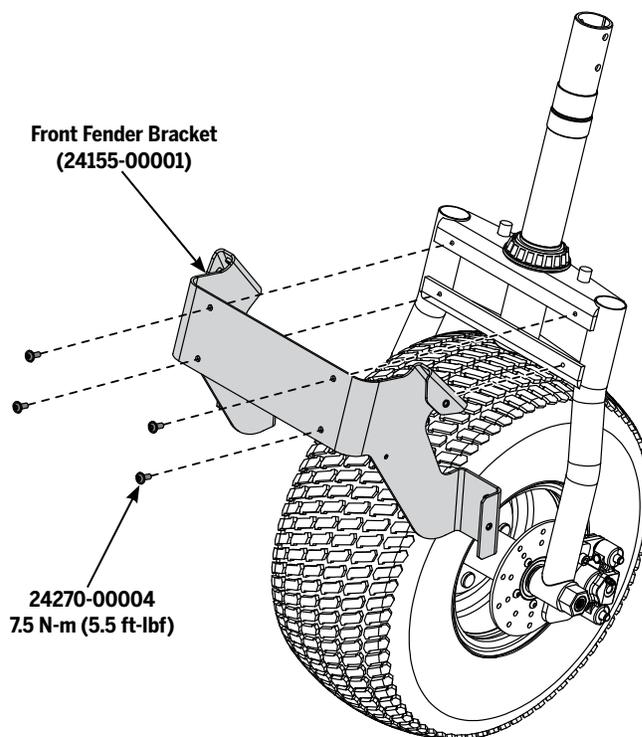

Figure 141: Front Fender Bracket
4. Using a 4 mm hex wrench, remove the four fasteners as shown in **Figure 141**.
3. Using a 4 mm hex wrench, install the four fasteners as shown in **Figure 141**.